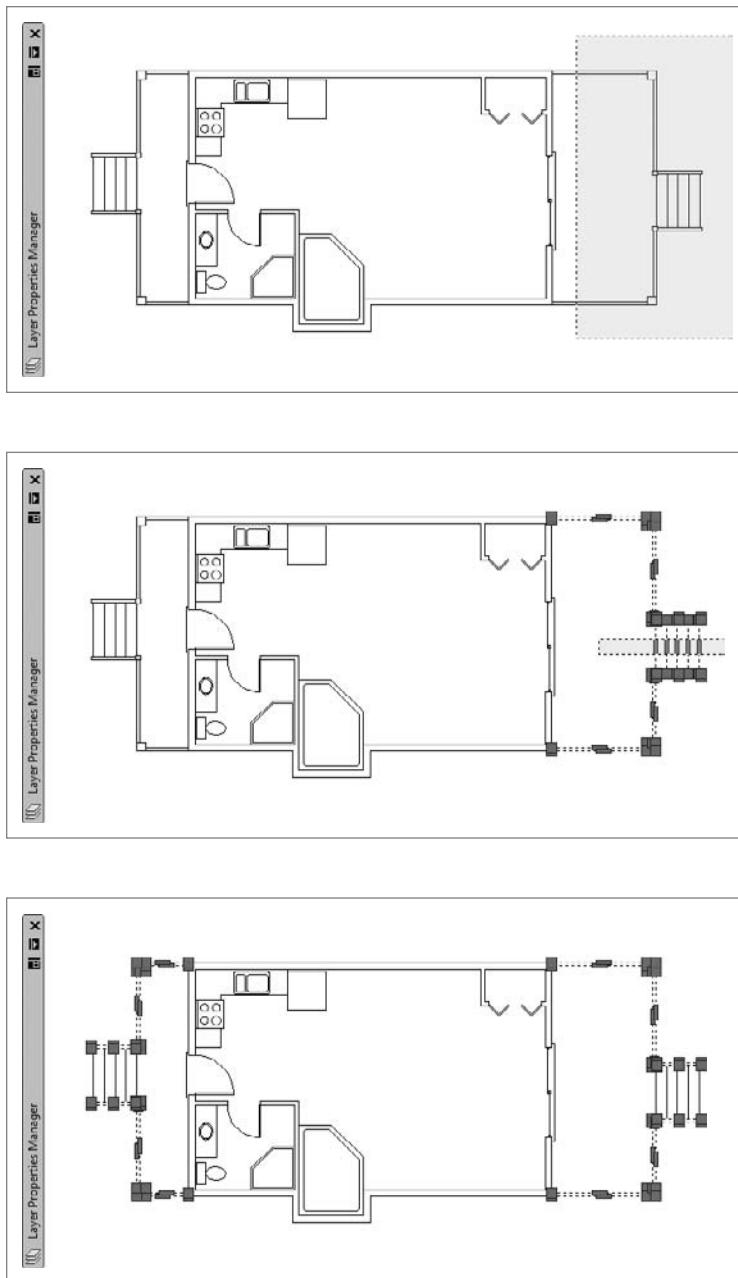

FIGURE 6.17 Selecting the front deck (top), deselecting the front stairs (middle), and the completed selection (bottom)
2. In the drawing, click and drag a selection window down and to the left to use a crossing selection window (green box with dashed lines) to select the front deck, as shown in the top of Figure 6.17.
3. Grips appear and the lines ghost (become dashed), signaling that the objects have been selected. Hold the Shift key down and select the front stairs with a crossing selection, as shown in the middle image in Figure 6.17. Selecting objects with the Shift key pressed causes objects that are already selected to become unselected (removed from the selection set), while there is no effect on unselected objects.
4. The stair lines appear solid again. Repeat the process on the rear deck so that the deck is selected but the back stairs are not. The selected components should look like the bottom image in Figure 6.17.